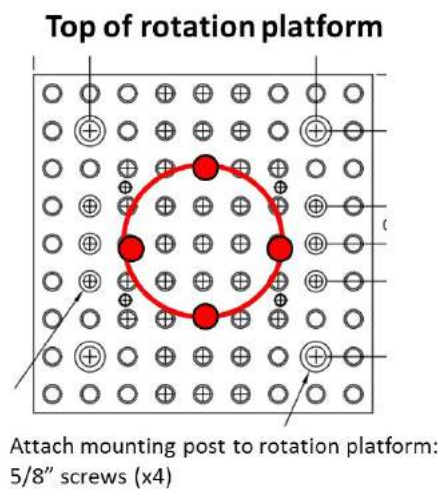

Figure 61
1. Center the base of the mounting post on top of the rotation platform installed in the last section. Use 5/8" screws (x4) to connect the mounting post to the rotation platform (refer to Figure 61 for placement)